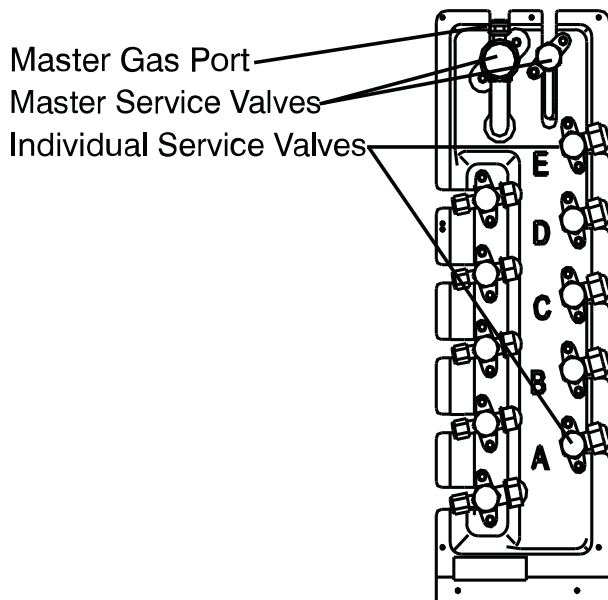

Fig. 20 — Service Valve
1. Completely tighten the flare nuts (A, B, C, D, E). Fully open all circuits service valves. Connect the manifold gage charge hose to the charge port of the low side Master service valve to evacuate all circuits at the same time (see Fig. 20).